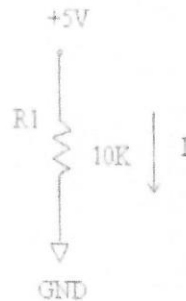

Figure 1.
1. Before building the circuit, using Ohm's Law, calculate the current through the 10K ohm resistor. This is your theoretical value. Give your answer in amps (A), milliamps (mA), and microamps (uA). Show your work to the right of Figure 1. (1A = 1,000mA = 1,000,000uA)
- b. Build the circuit in Figure 1 on the protoboard. With the multimeter set to measure DC volts, measure the voltage across the resistor.